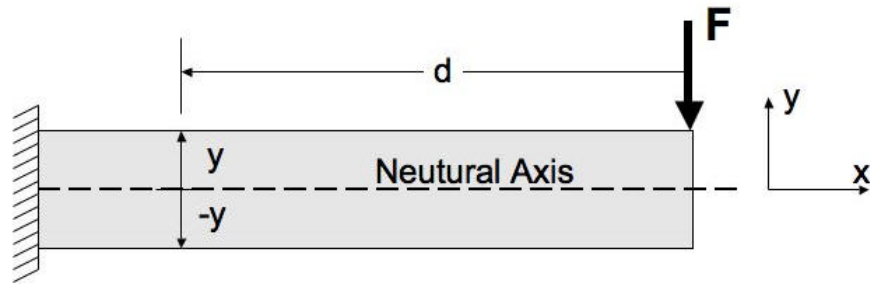

Figure 3. Cantilever beam placed in bending by a load (F).
- (d) For bending stresses, refer to Figure 3 and Equation 1 (axial stress not shown).